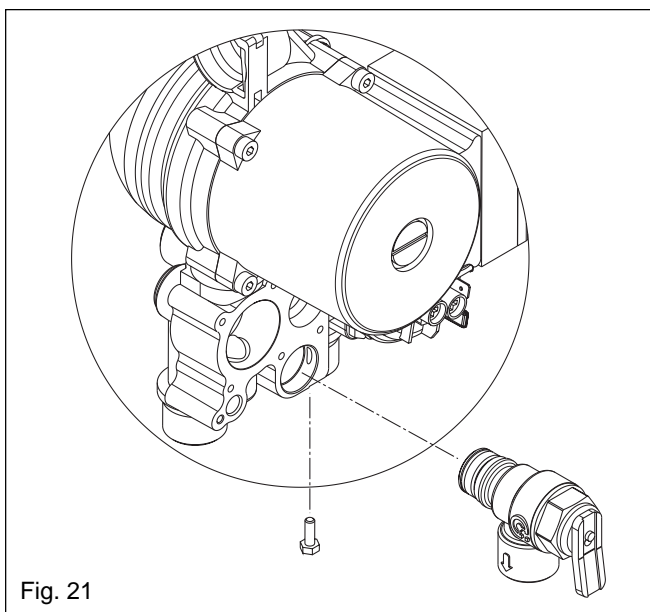

Fig. 21
**6.6 SAFETY VALVE (see fig. 21)**